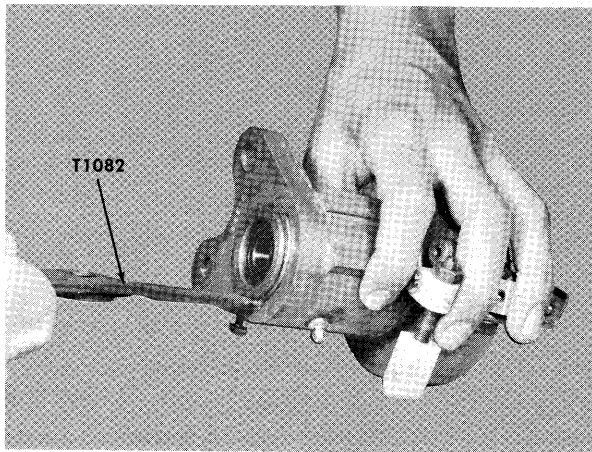

Figure 5 – Removing Retaining Ring
- B. Remove interlock switch by removing two (2) screws securing same to distributor bracket.
- D. Remove retaining ring using retaining ring pliers (Special Tool T1082) as shown in figure 5.
- B. Install retaining ring to secure distributor bracket to housing. See figure 5.